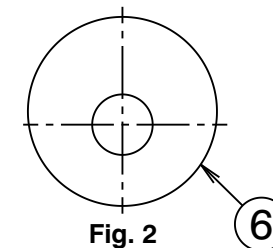

Fig. 2
- 1) Check that threaded nipple (1) is the correct distance from the wall/tile face, as shown. Cut to length if required ensuring end face is square. **Important:** The G1/2B thread must be installed at the correct depth and square to the wall/tile face. Apply thread sealant to the thread of nipple (1). **Important:** Care must be taken that thread tape cannot become dislodged and block the flow regulating device, causing a reduction in water flow.
- 2) Screw adaptor (3) onto threaded nipple (1) and tighten with an 8mm allen key (5), until its flange has bottomed firmly against the wall/tile face. DO NOT OVERTIGHTEN. Apply suitable lubricant to 'O' Rings (4) on adaptor (3).
- 3) Apply a suitable clear sealant to the back edge of the cover plate (6), leaving an unsealed section at the bottom for drainage. Carefully place the hole in the cover plate (6) over the spigot of adaptor (3) and rotate the plate to the position as shown (Fig.2), then push the cover plate against the wall/tile face. Fit wall outlet (9) onto spigot of adaptor (3), taking care that 'O' Rings are not damaged as they enter bore of outlet, then push it firmly against the cover plate (6) while tightening grub screws (7) using the 2.00mm allen key (8) provided. Take care that the water stream direction will be vertically downwards before tightening screws (7). Wipe clean any excess sealant from the external surfaces & the wall/tile face.